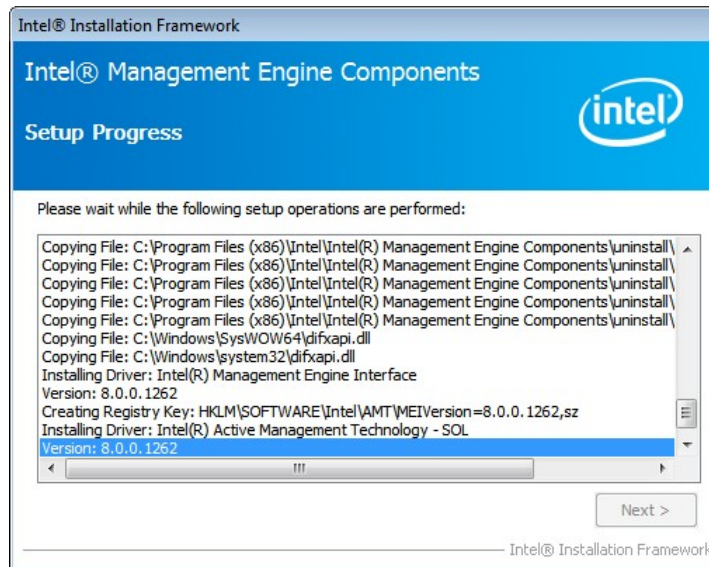

Figure 6-34: Intel® ME Driver Setup Operations
Step 9: **Setup Operations** are performed as shown in **Figure 6-34**.